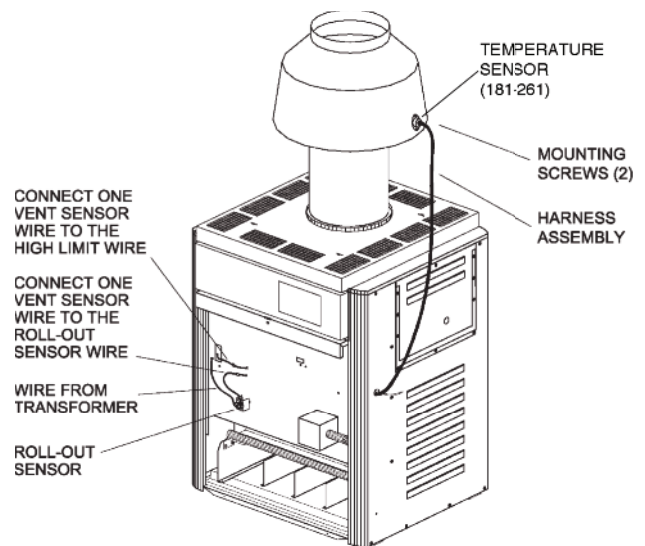

Fig. 10: Boiler After Drafthood Installation—Models 181-401 & 182-400
4. Mount drafthood on top of boiler as shown in Fig. 10. Drafthood should be positioned with the vent sensor located on the front right side as shown.